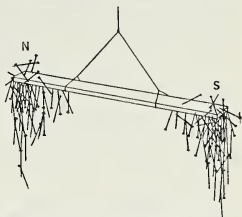

Fig. 269. A magnet attracts iron at its poles.
**Magnetic attraction.** If a bar magnet (Fig. 269) is dipped into a cluster of small nails, there will be no attraction at the center of the magnet, and the greatest number of nails will cling to the ends of the magnet. These are called the *poles* of the magnet. If we suspend this bar magnet freely by hanging it from a thread, it points north and south.